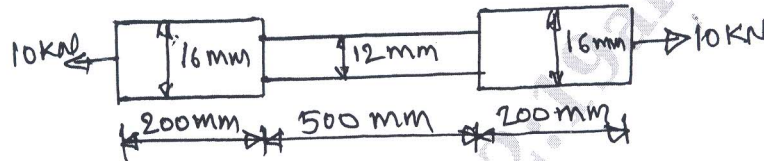

Fig.Q4(a)
- 4 a. The bar with circular cross section as shown in Fig.Q4(a) is subjected to a load of 10 kN. Determine the strain energy stored in it. Take  $E = 2.1 \times 10^5 \text{ N/mm}^2$ .